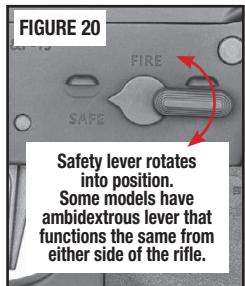

FIGURE 20
- Place safety selector lever on “SAFE” (FIGURE 20). If the safety lever won’t rotate to the “SAFE” position - pull the charging handle (uniformly by both sides) all the way back, press and hold the lower portion of the bolt catch down (FIGURE 21) while you release pressure on the charging handle. This will lock the bolt in the open position.